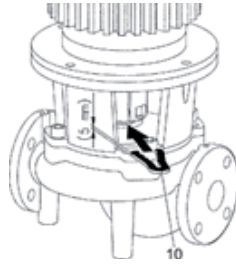

Fig. 14: Positioning the forked spacer
- Slide the forked spacer (Fig. 14, Item 10) between the lantern and coupling. The forked spacer must fit without any play.